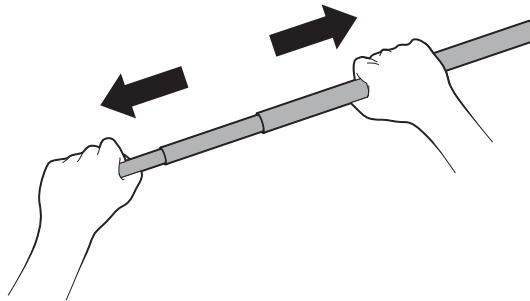

Figure 8 Extending the telescopic mounting pole
- Extend the telescopic mounting pole as indicated in Figure 8.